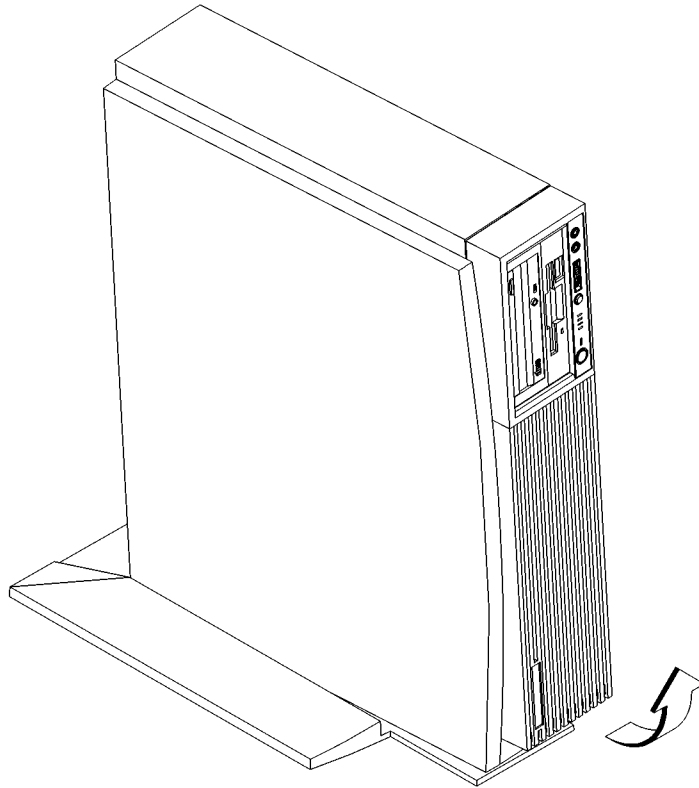

Figure 20
- 5 Remove the floor stand from the system unit, as shown in Figure 20.